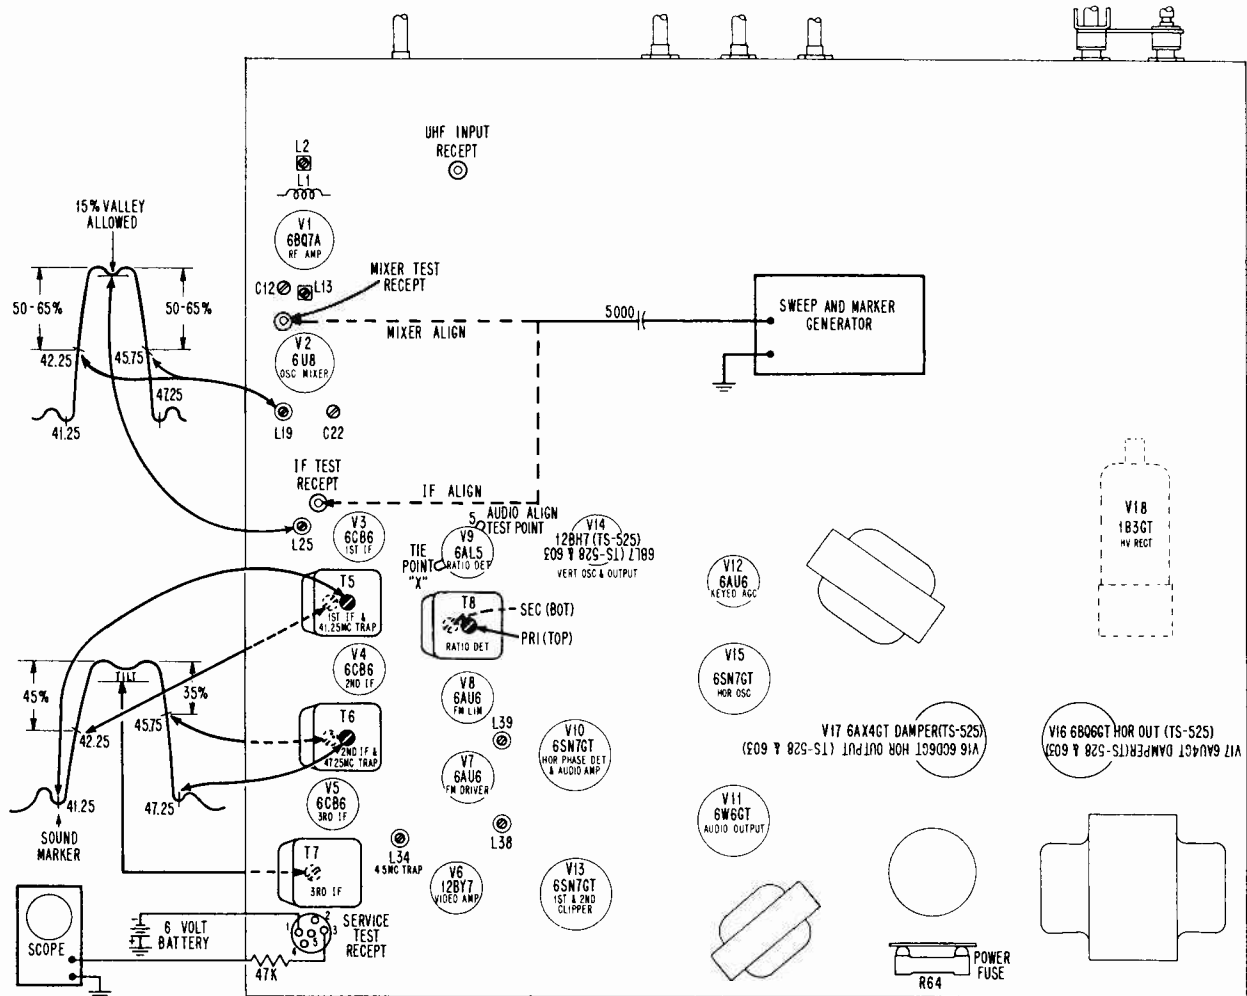

FIGURE 8. TUBE LOCATIONS & IF ALIGNMENT DETAIL
2. Remove antenna and make following connections: (See Figure 8).
3. Maintain 5 volts, or less, at VTVM by adjustment of fine tuning and contrast control (or by removal of antenna, if necessary) while peaking T-8 primary (top) and L-38 & L-39 for maximum output. (See Figure 8.)
5. Move meter to junction of R-54 & R-56 (dummy pin on V-9 socket, marked "X" in Figure 8).